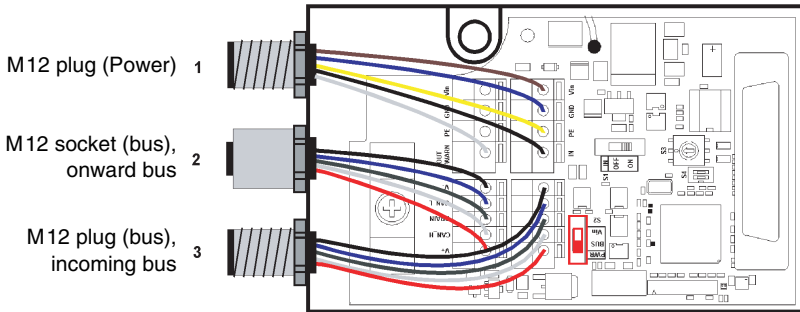

Figure 9.5: Installation and connection of the optional M12 connectors
5. Connect cables acc. to figure 9.5 and Table 9.2.